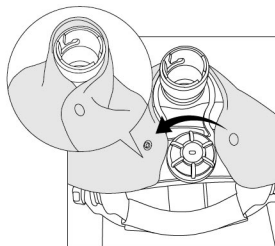

fig.6b
Step 2 : Buckle up the button at back side of extended hood (See fig.6b).